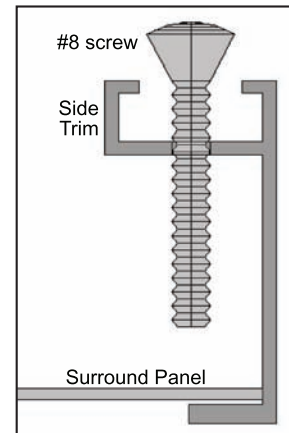

Figure 28: Screw to hold the trim against the surround.
5. On the side trims there are holes 2" (50 mm) from either end. Using a Phillips screwdriver to place a #8 screw 1 1/4" long in each hole and tighten (refer to Figure 28). This will keep the trim tight against the surround.